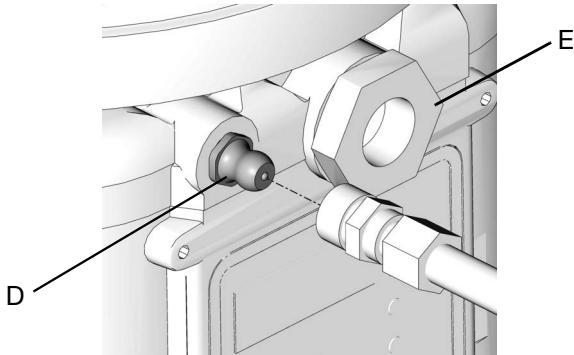

FIG. 23
1. Connect fill hose to Zerk Inlet Fill Fitting (D) (FIG. 23).
1. Connect fill hose to inlet fitting (D) (FIG. 23).